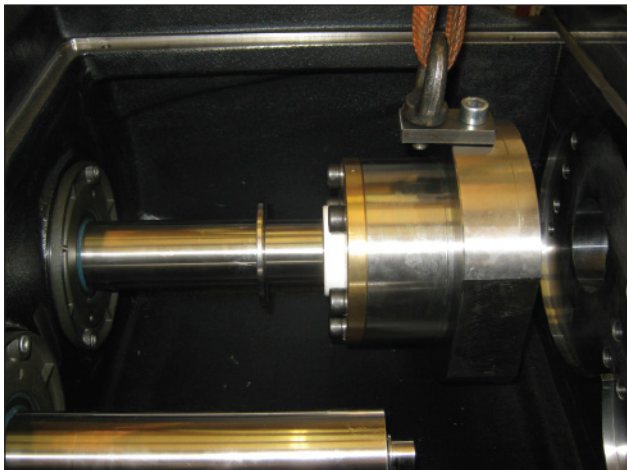
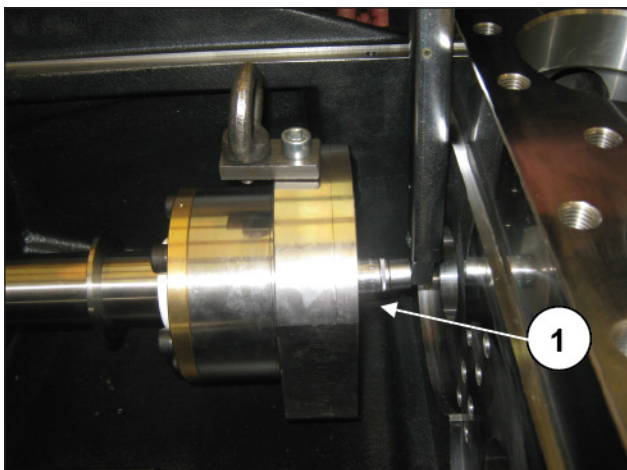

Fig. 235
Fig. 236
Lift the complete support and insert it into the front casing behind the manifold, after positioning the piston guide rod at bottom dead center (Fig. 235), then fix the piston to the rod (pos. ①, Fig. 236) tightening the screw with a torque wrench as described in heading 3.